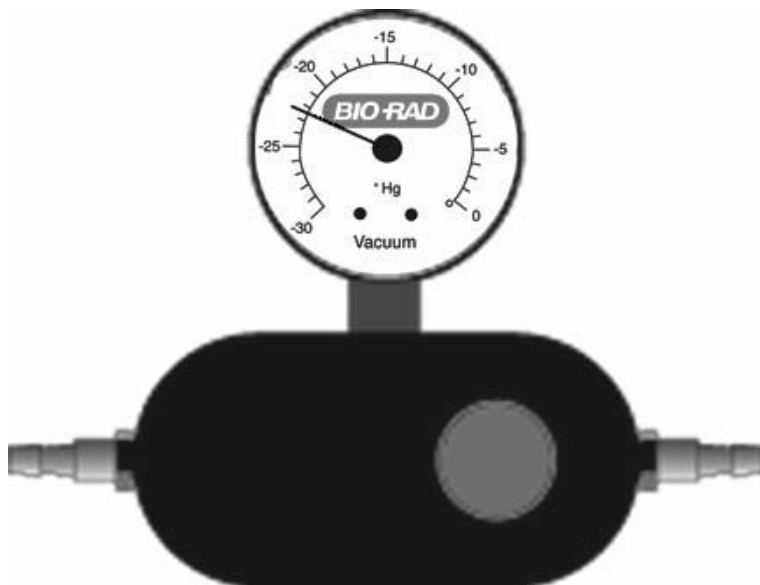

Fig. 2. Vacuum regulator with clear representation of the gauge
- The recommended operating range is -20 to -23 inches of mercury (" Hg). Do not exceed -25" Hg when performing this protocol. A vacuum regulator is required to establish the appropriate vacuum pressure (Figure 2).